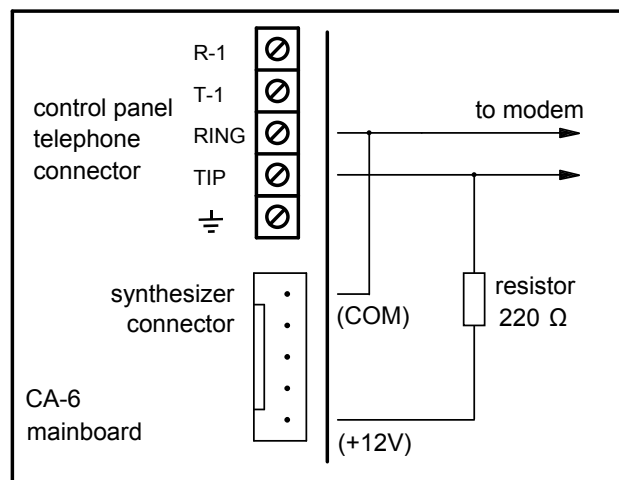

Fig. 14. Connecting control panel to modem for local mode programming.
Interaction with the computer by means of a **modem** can be effected in two ways: in a *remote mode* (through the telephone line) or in a *local mode*. The local mode can be used after connecting the modem directly to the TIP and RING telephone terminals on the control panel (see: Fig. 14).
- connect the computer modem to the „TIP” and „RING” control panel terminals (**the telephone line must be disconnected!** Connections of the „T-1” and „R-1” terminals are irrelevant), and make sure that the polarity of the telephone signal inputs arrangement in the control panel is as shown at the Fig. 14;